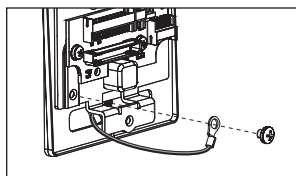

Fig. 24
- Secure ground lug with #6-32 machine screw. (Figure 24)